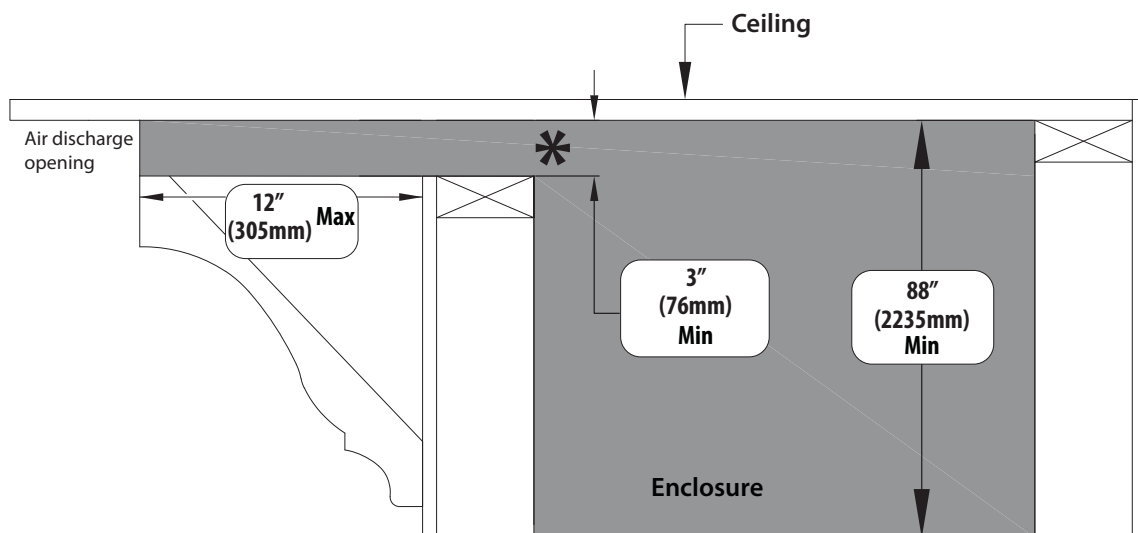

Figure 3.18, Front Vented Cavity Crown Molding Installation
- Figure 3.18 shows the installation of crown molding or similar trim work that goes up to the edge of the air discharge opening. 12" (305mm) is the maximum length of the molding or trim projection and you must maintain 12" (305mm) clearance for the full length of crown molding/trim projection. This molding or trim cannot decrease the minimum opening requirement.